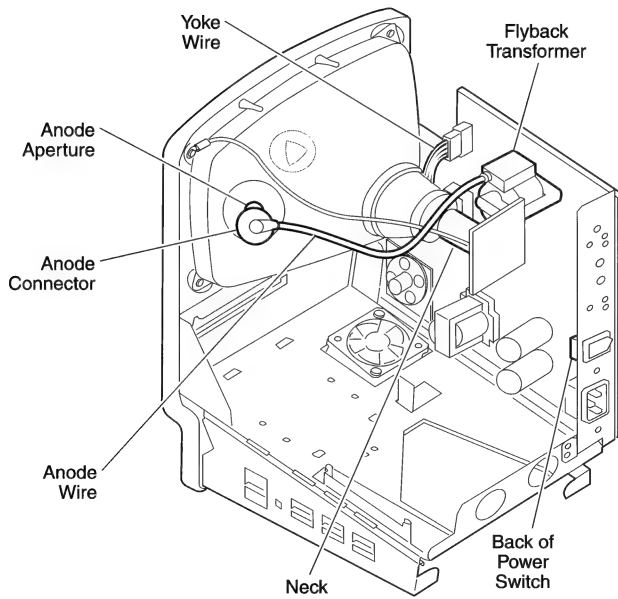

Figure 1 CRT High-Voltage Areas
9. Do not pick up or handle a CRT by its neck (see Figure 1). To prevent an implosion, take every precaution against breaking the tube. Be especially careful with the neck, where the tube is thinnest.
10. In addition, never touch the following components (see Figure 1) when adjusting a live Macintosh CRT: